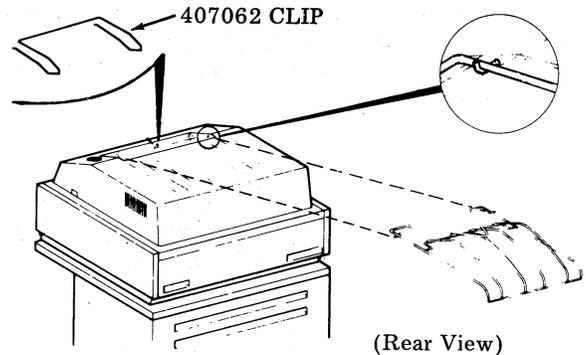
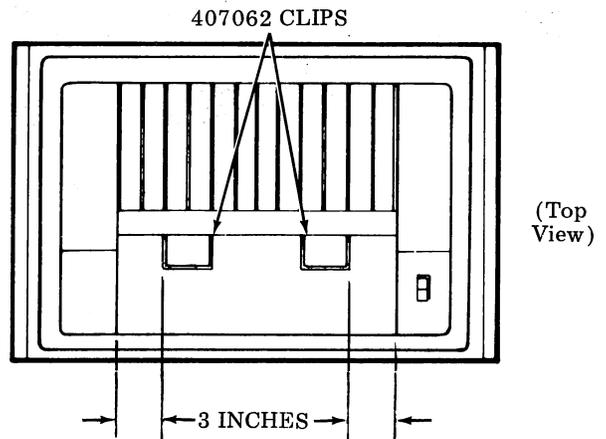

Fig. 1—80-Column Cabinet
Fig. 2—132-Column Cabinet
2.02 Check the overall exterior of the station; check that data set cable and power cord are securely connected; check the condition of the cabinet window — replace if damaged or broken; check that the 407062 antistatic clip(s) is installed on the window — replace if deformed or broken. Check the position of the clip on the window: centered on 80-column cabinets (Fig. 1), 3 inches from edge of window on 132-column cabinets (Fig. 2).